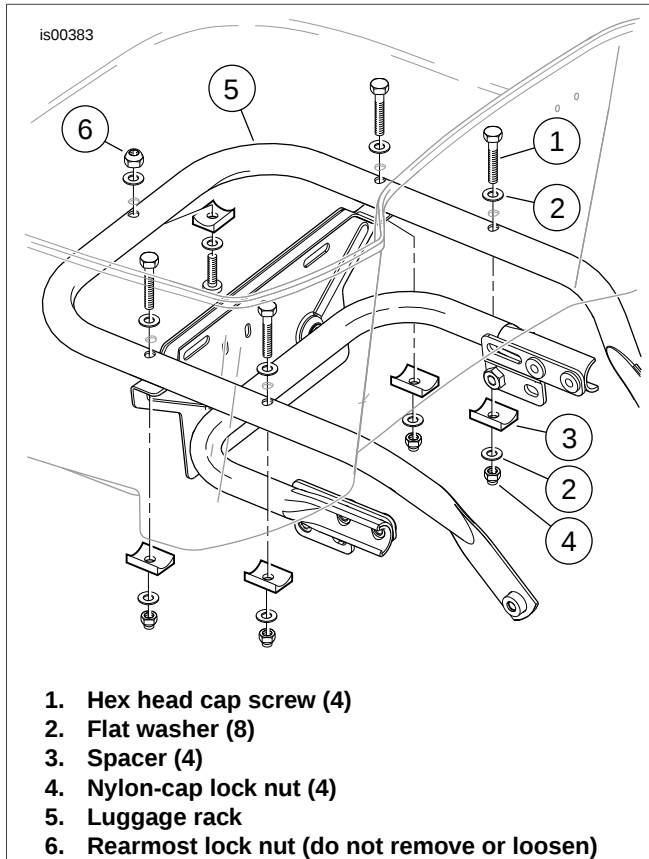

Figure 1. Tour-Pak Attaching Hardware, 2008 and Earlier Touring Models
3. See Figure 1. Holding the hex-head cap screws (1) at the bottom of the Tour-Pak, remove the four **forward** nylon cap locknuts (4), washers (2) and spacers (3) on the underside that fasten the Tour-Pak to the luggage rack (5) side rails.
10. See Figure 1. One at a time starting at the front, remove the Tour-Pak attaching screws (1) and flat washers (2), replacing them with **new** screws and flat washers from the kit.